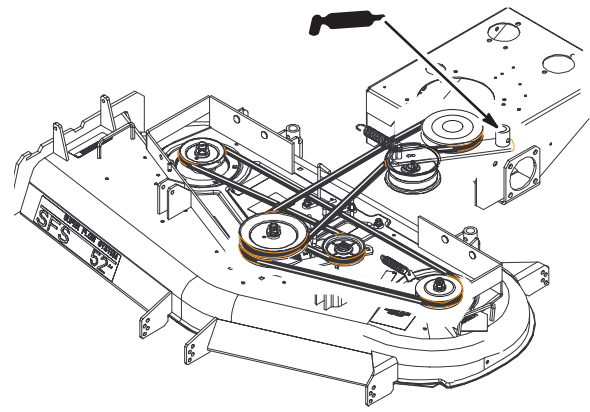

Figure 28
2. Grease the idler pulley pivot for the deck (Fig. 28).